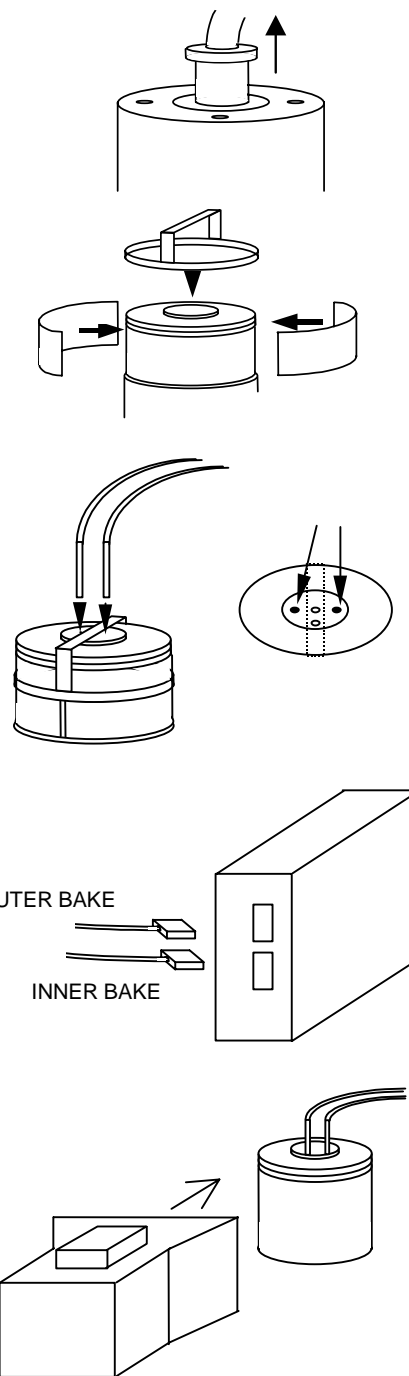

Figure 10-1: Electron Gun Baking
Perform the electron gun baking according the Figure 10-1.
11. Start normal Baking. See Figure 10-1.